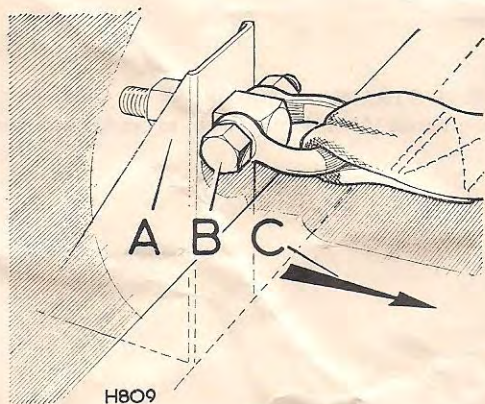

Fig. 3 Tongue strap fixing, lower bulkhead panel, right-hand side illustrated
4. Screw the shackle bolt into the tapped hole in lower bulkhead panel position using rubber washer and plain washer. Tighten the shackle bolt so that it is located as shown at Fig. 3. The rubber washer allows the shackle bolt to be correctly aligned. Do not over-tighten.
5. Fit the tongue strap shackle to shackle bolt and secure with bolt and nut, as shown in Fig. 3.